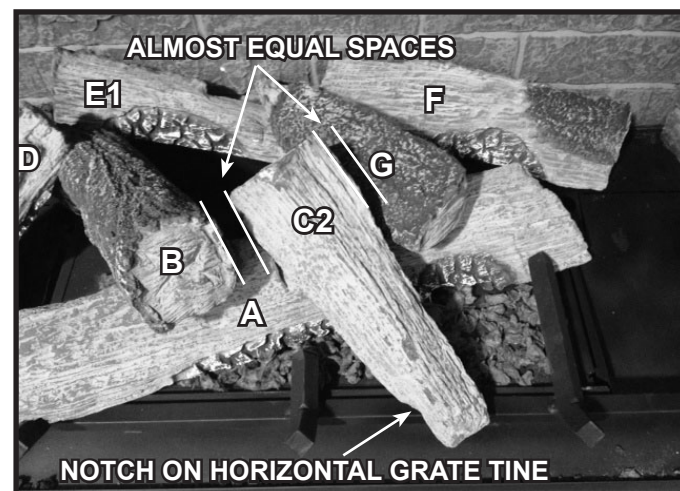

Figure 12. Log C2 Installed
8. **(LOG C2):** Place Log C2 into the appliance as shown in Figure 12. The notch on the bottom of Log C2 should rest on the horizontal grate tine, approximately halfway between the middle and right grate tines. The top of Log C2 rests in the notch of Log A. It will be spaced almost equally between Logs B and G.